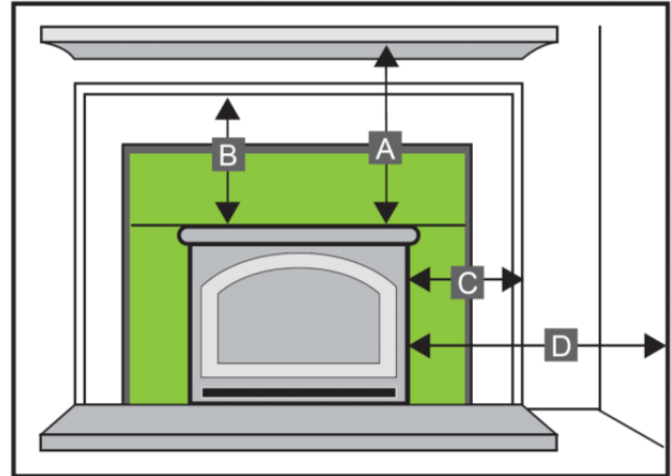

Figure 13
- The minimum clearances, facing, and hearth requirements in Figure 13 must be met.